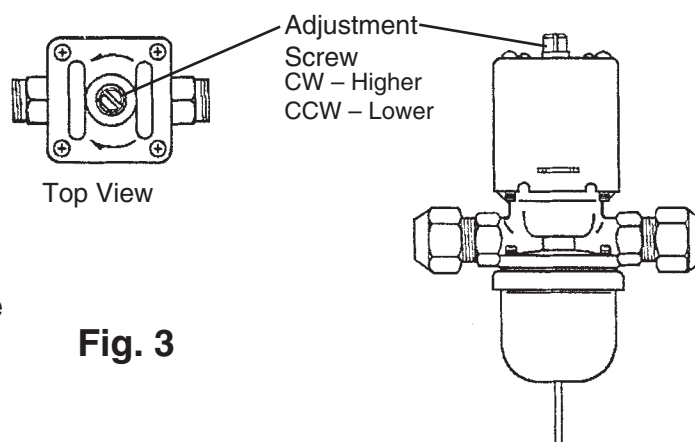

Fig. 3
- 2) Five minutes after a freeze cycle starts, confirm that the thermometer reads 104°F to 115°F (40°C to 46°C). If it does not, rotate the adjustment screw by using a flat blade screwdriver until the temperature is in the proper range. See Fig. 3. Next, check that the reference pressure is in the range indicated in the Head Pressure table in the Performance Data section. If it is not in the proper range, verify the refrigerant charge.